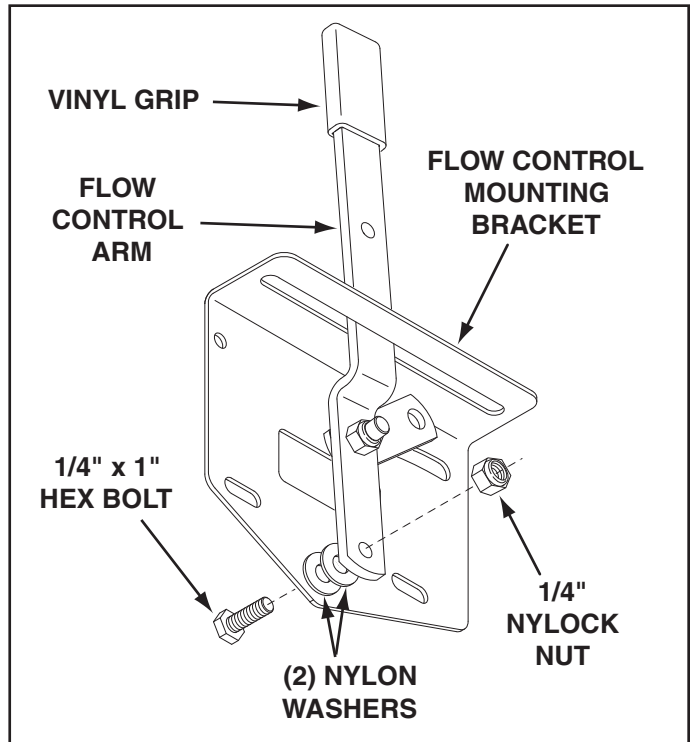

FIGURE 7
15. Assemble the flow control arm to the flow control mounting bracket using a 1/4" x 1" hex bolt, two nylon washers and a 1/4" nylock nut as shown in figure 7. **Tighten carefully.** The flow control arm should be snug, but should pivot with no more than a slight resistance.
16. Assemble the vinyl grip. See figure 7.